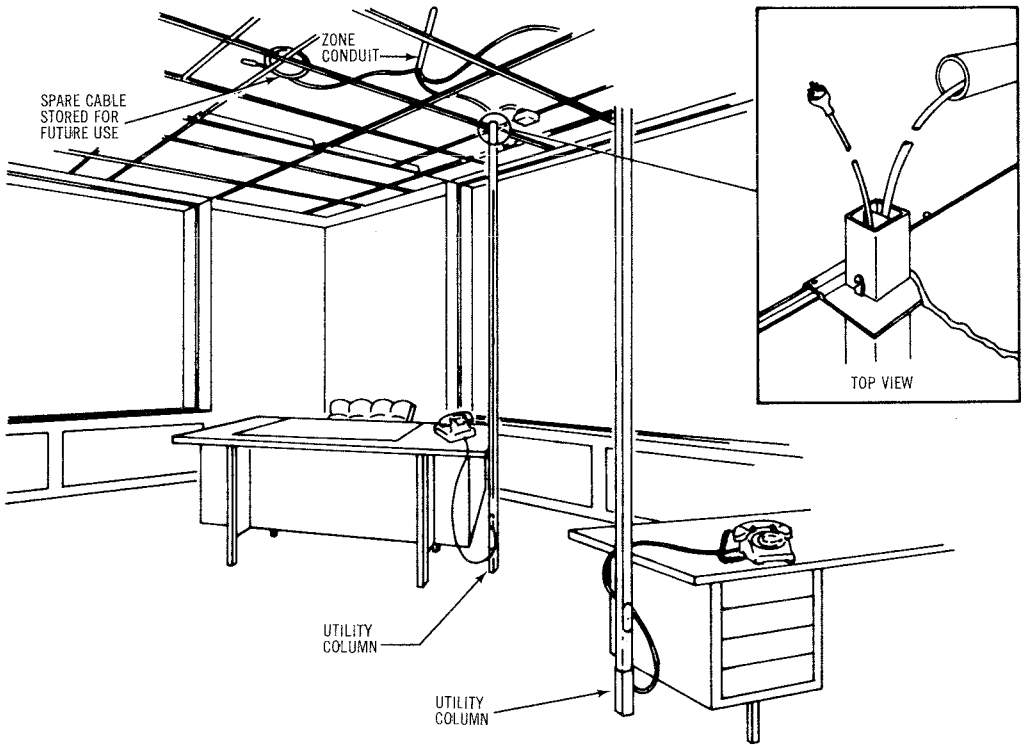

Fig. 13 - Wiring Method With Utility Columns
**11.01** A utility column is a post placed between the ceiling and floor in conjunction with the ceiling distribution system as shown in Fig. 13. It is used for the concealment of communications wiring from the ceiling to the desk. It can also be used as an extension of electrical outlets for the same purpose.
**11.06** There are several different models of utility columns available to the customer: (Figs. 13 to 15)